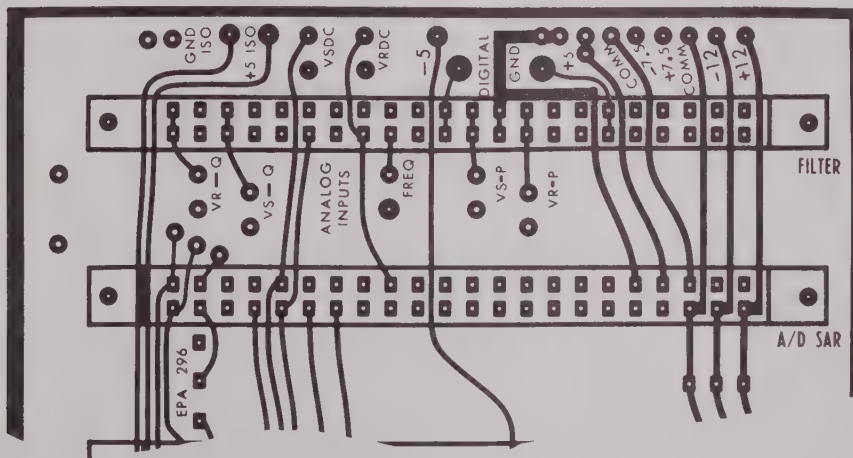

Figure 4-5. Right-hand Motherboard
4. Check the power supply voltage levels (see Figure 4-5).